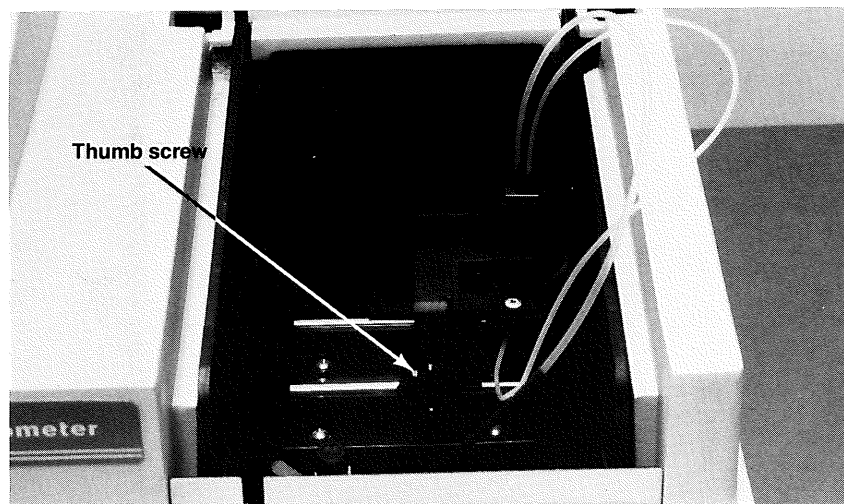

Figure 12.
15. *Unheated flowcell, only.* Seat the single cell holder on the rails. Slide it towards the right-hand side of the sample compartment as far as it will go. Tighten the thumb screw. Place the flowcell in the cell holder. See Figure 12.